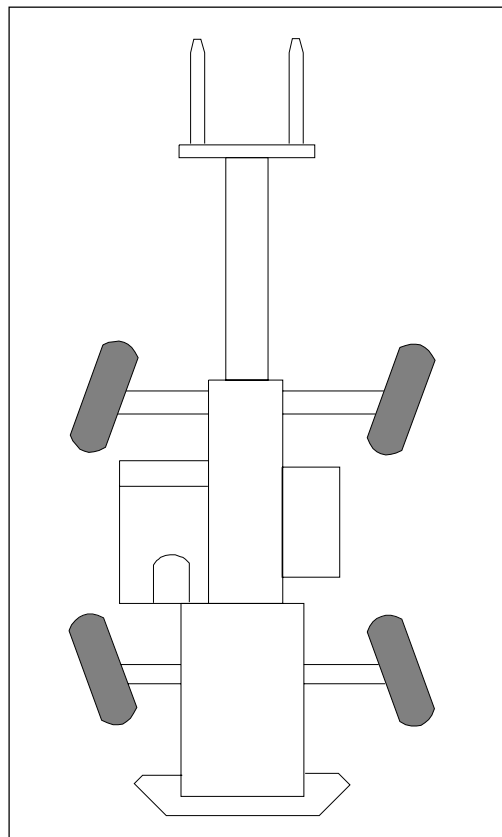

Figure 14. Four-Wheel (Crab) Steering Mode.
- c. **FOUR-WHEEL (CRAB) STEER.** (Shown in Figure 14 on the following page.) In this mode the rear wheels will turn in the opposite direction from the front wheels, providing the shortest turn radius. Do not use 4 wheel steer at speeds over 10 mph.